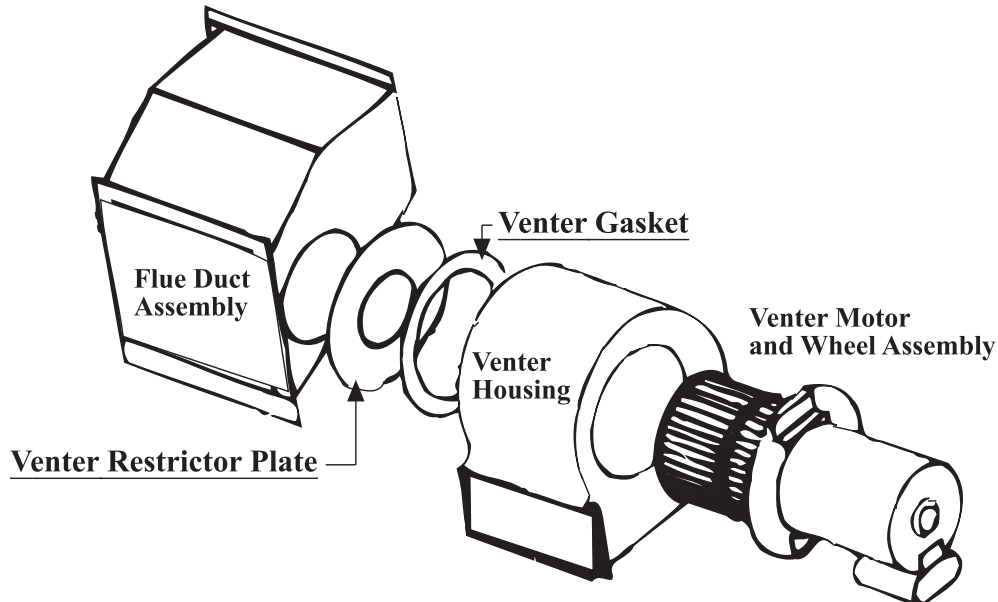

Figure 1. Venter Restrictor Plate and Gasket Location
- a. Align replacement venter restrictor plate, venter gasket, and venter housing as shown in **Figure 1** and secure plate, gasket, and housing to flue duct assembly using three screws removed in step 2b.
- b. Install venter motor and wheel assembly in venter housing as shown in **Figure 1** and secure assembly to housing using hardware removed in step 2a.